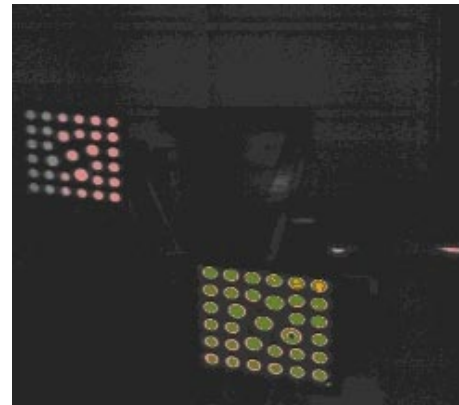

Figure 3-85
13. Two images should appear in the upper left hand portion of the screen. The images will alternately change colors from “clear, pink, green” the aligner is sampling the images and will automatically prompt the technician for advancement. (Figure 3-85)